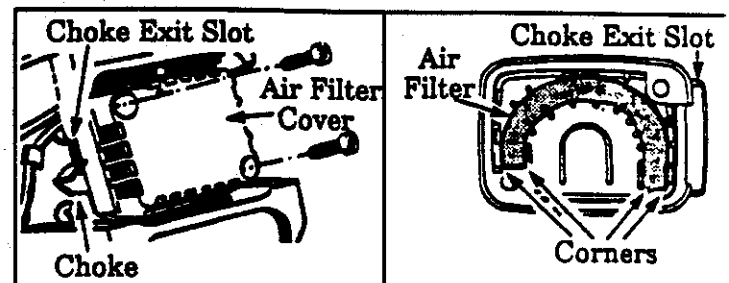

Figure 30
- a. Loosen the two Screws on the Air Filter Cover enough to remove the Cover from the Engine. Figure 30 .
- b. Remove the Air Filter from the Cover. Figure 30 .
- e. Reinstall the Air Filter Cover, making sure the choke Exit Slot (Figure 30 ) is placed over the Choke Lever.